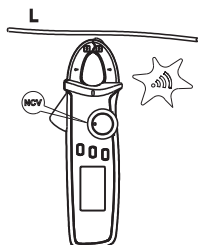

Figure 5
4. Measuring of NCV Non-contact Electric Field (Figure 5)